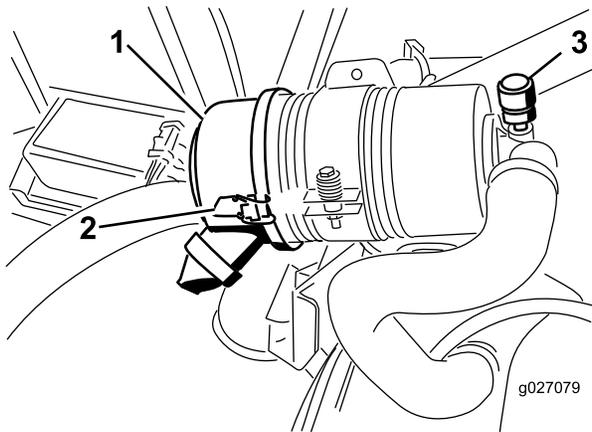

Figure 51
Service the air cleaner filter only when the service indicator (Figure 51) requires it. Changing the air filter before it is necessary only increases the chance of dirt entering the engine when the filter is removed.
1. Release the latches securing the air cleaner cover to the air cleaner body (Figure 51).